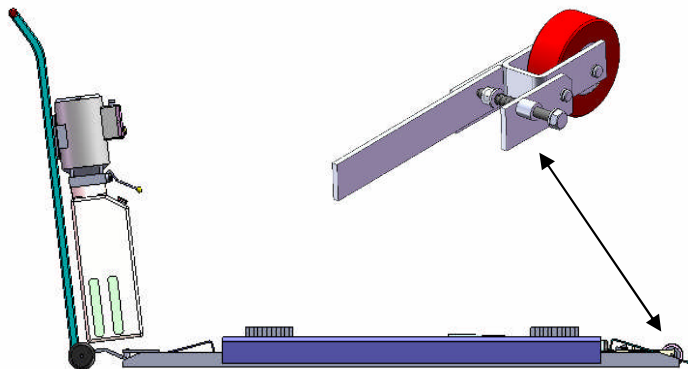

**Fig. 2**
- B. The roller assy. must be disengage when lifting vehicle (**See Fig. 4**), please make sure the vehicle center of gravity must be in the middle of lift, and the safety lock must be in engaged when lifting. (**See Fig. 2**)